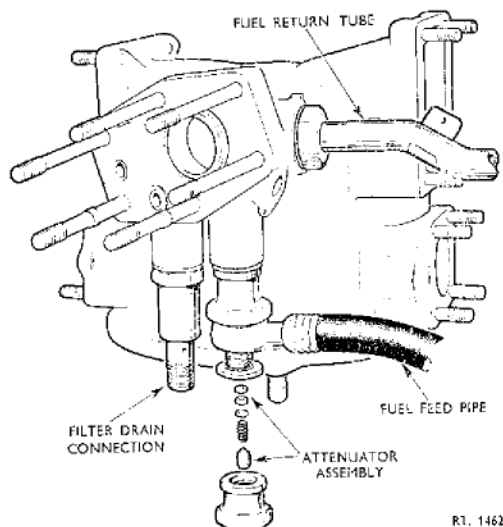

Fig. 7. Fuel feed and return connections to B.P.C. (F.C.U. type BA.70573)
48. To ascertain the positional fitting of the parts referred to in this paragraph, see fig. 7. Insert a new sealing ring into the B.P.C. fuel return inlet in the filter housing. Fit the gland nut and gland washer on to the fuel return tube, then insert the tube into the inlet, locating the end of the tube in the sealing ring. Screw in the gland nut but do not tighten it at this stage. With the spacing washer interposed, fit the two orifice plates into the B.P.C. fuel feed attenuator body, insert the spring and secure the assembly with the grub screw. With a new sealing washer fitted, screw the attenuator body into the B.P.C. fuel feed outlet in the filter housing and fully tighten. Fit a new sealing